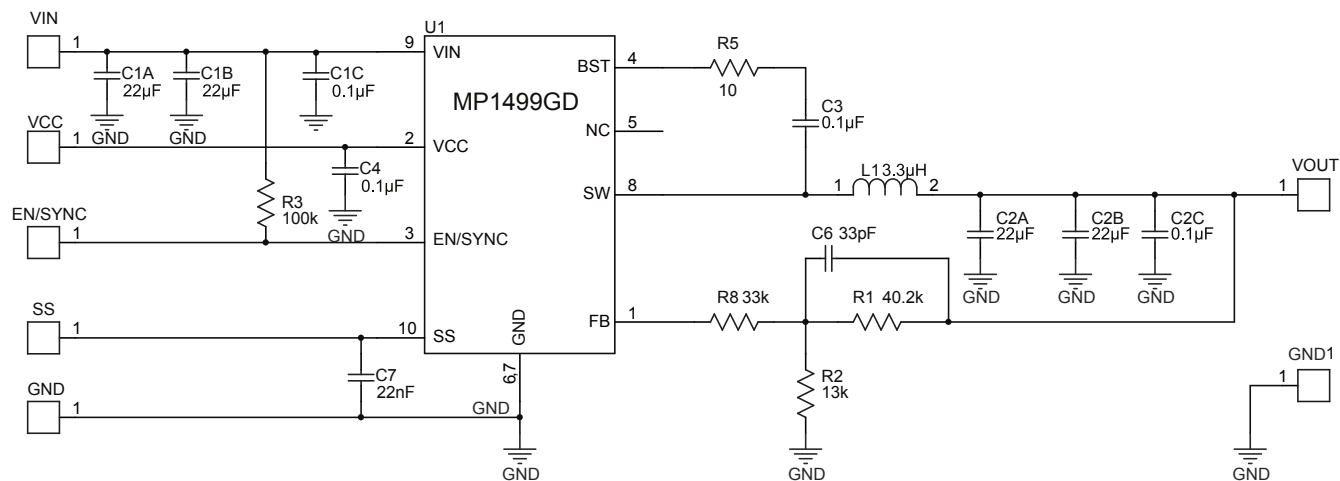

Figure 9—12V Input-3.3V/5A Peak Output
- 8) The recommended layout is based on the Figure 9 Typical Application circuit on the next page.
The detailed application schematic is shown in Figure 9. The typical performance and circuit waveforms have been shown in the Typical Performance Characteristics section. For more device applications, please refer to the related Evaluation Board Datasheets.